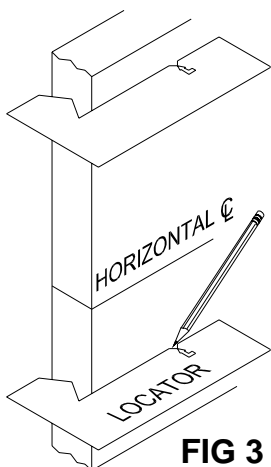

FIG 3
b. Using the Backset Locator furnished, mark two points on each side of the Door, above and below the horizontal line. (Fig.3). Draw a vertical line through the two points on each side of the Door.